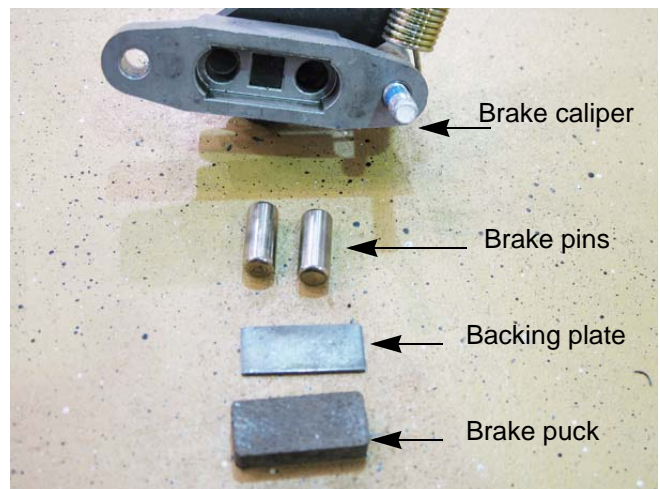

Figure 3.9
9. With the caliper on a work bench, remove the brake puck, backing plate and the two brake pins. See Figure 3.9.